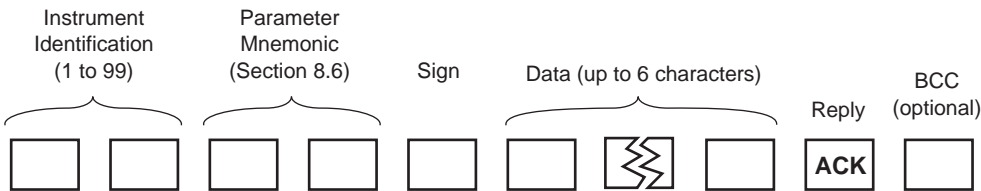

Fig. 8.4 Reply Format (Command Understood)
8.3 Reply Format – Figs 8.4 to 8.6
The ZMT Analyzer replies to the command using the reply format shown in Figs. 8.4 to 8.6.